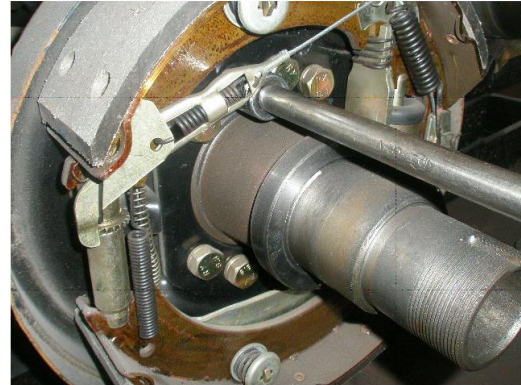

Fig 5-12
(6) Remove the E-shaped retainer ring that fastens the brake cable onto the bolts on bottom plate, and detach the bottom plate from the axle. (Fig 5-12)